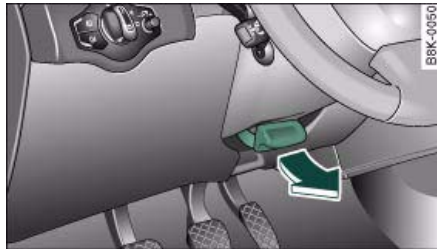

Fig. 133 Lever beneath steering column
- Pull the lever ⇒ fig. 133 -arrow- ⇒ ⚠ up.